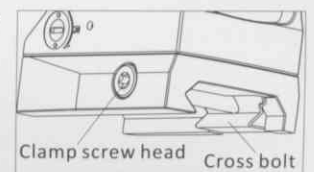

Fig 4-1
2. Insert the appropriate Torx wrench (included) into the clamp bolt head, rotate to loosen the cross bolt and then slide the sight into the firearm rail to the appropriate position. Finally tighten the clamp bolt. (Fig4-1)